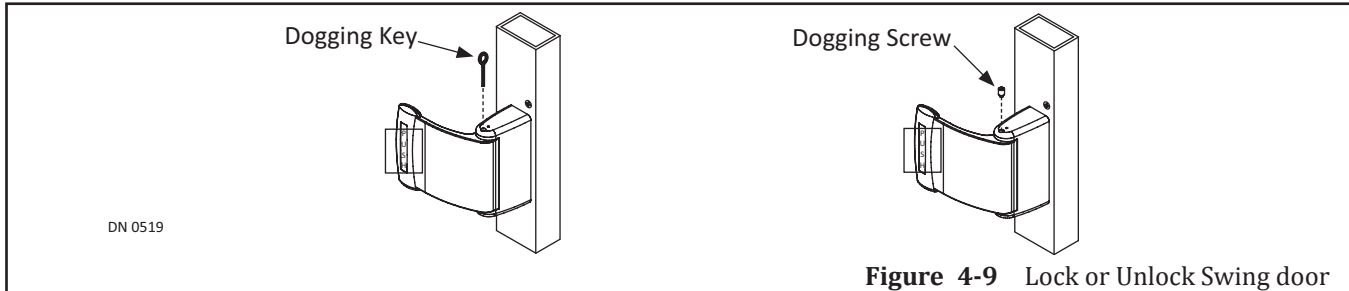

Figure 4-9 Lock or Unlock Swing door
A Dogging Key is used to lock or unlock the Push Paddle. If the Push Paddle is locked the Swing door is not allowed to open from the Inswing side of door. Please see Figure 4-9.
1. Obtain (1) Dogging Key.
2. Insert (1) Dogging Key in the hole located on top of the Escutcheon.
5. Replace the Dogging Key with the Dogging Screw. Please see Figure 4-9.